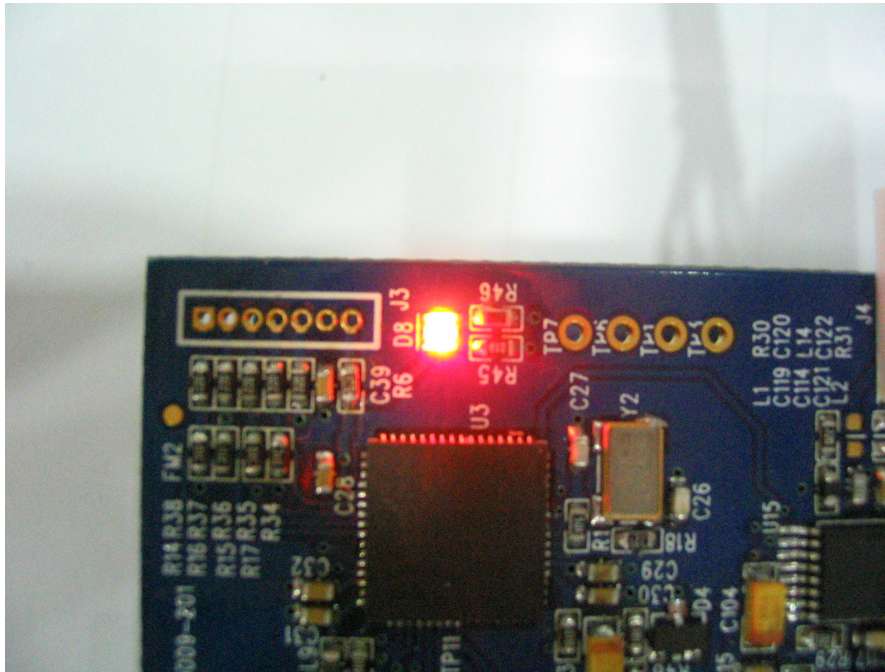

Figure 1-5 Active Red LED on power up.
- red LED will light for a long duration as illustrated in Figure 1.5, and then turn off.